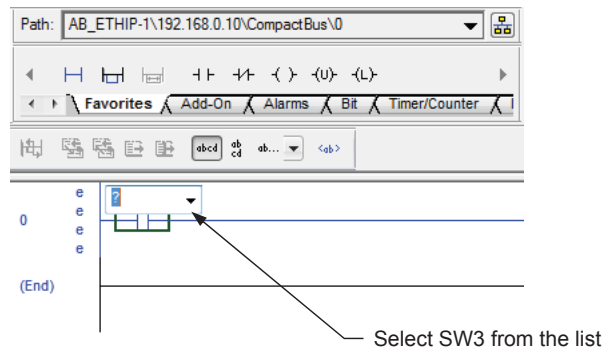

Figure 101. Assigning a tag to the instruction.
13. Double-click the question mark (Figure 101). This gives you access to a list of available tags. Select the alias tag that pertains to the mechanical switch (SW3).